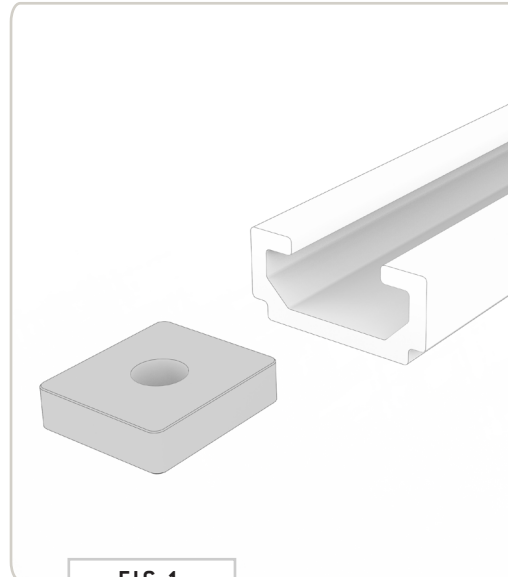

FIG 1
1.1 Install Prep: If you are installing this kit at the same time as your **Low Pro Roof Rack**, slide the appropriate amount of **Rail Nuts** into the passenger side roof track to accommodate your **F80 Brackets** (**FIG 1**). If you are installing the F80 with a Low Pro that has already been fitted to your van, you'll need to remove the **Passenger Side Rails** (**FIG 2**) and re-use existing **Rail Nuts** in the track. If you have too many or too few; you'll need to add or remove as necessary. We sell packs of additional **Rail Nuts** if you need more.